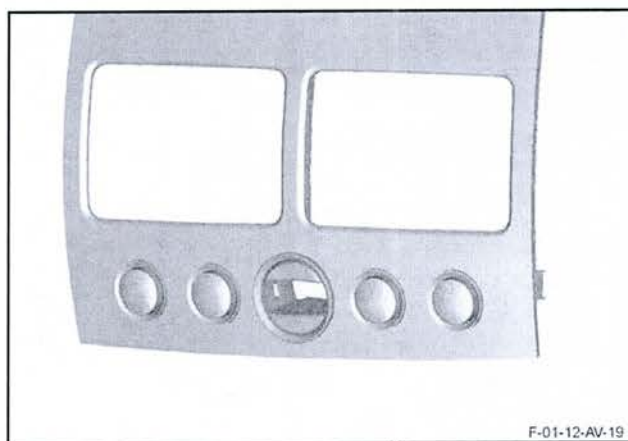

Figure 9
14. Remove the ignition switch bezel assembly (refer to Figure 9).